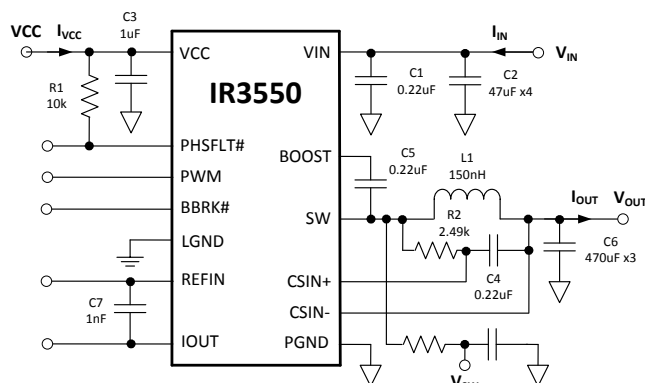

Figure 32: IR3550 Power Loss Measurement
Circuit of Figure 32, $V_{IN}=12V$, $V_{OUT}=1.2V$, $f_{SW} = 400kHz$, $L=150nH$ (0.29mΩ), $V_{CC}=7V$, $T_{AMBIENT} = 25^{\circ}C$, no heat sink, no air flow, 8-layer PCB board of 3.7" (L) x 2.6" (W), no PWM controller loss, no inductor loss, unless specified otherwise.
The single-phase IR3550 efficiency and power loss measurement circuit is shown in Figure 32.